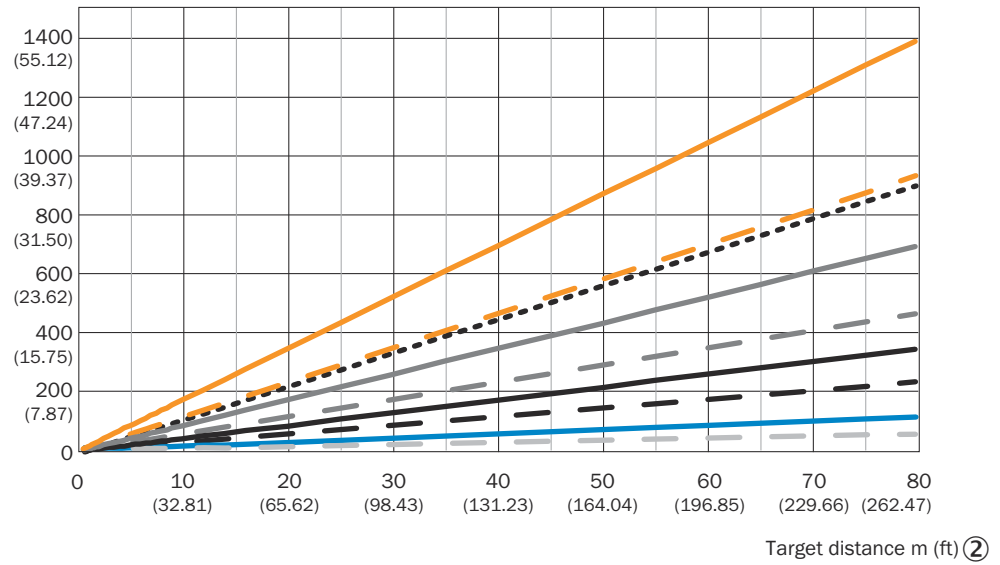
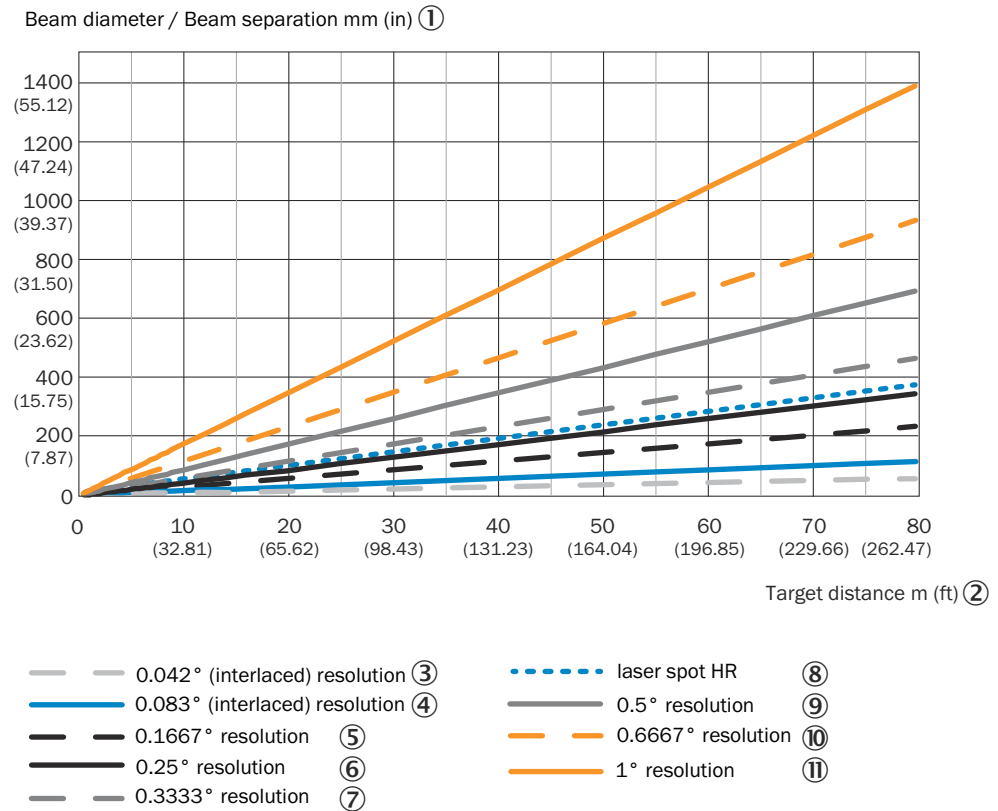

Figure 18: Beam diameter and measuring point distance at 0 to 80 m (SR)
Figure 20: Beam diameter and measuring point distance at 0 to 80 m (HR)
- ② Distance of the target [m] (in)
- ③ Resolution 0.042° (interlaced)
- ④ Resolution 0.083° (interlaced)
- ⑤ Resolution 0.1667°
- ⑥ Resolution 0.25°
- ⑦ Resolution 0.3333°
- ⑧ Beam diameter SR
- ⑨ Resolution 0.5°
- ⑩ Resolution 0.6667°
- ⑪ Resolution 1°
Reading example for an angular resolution of 0.1667° (SR) in figure 18
- Distance intersection point 30 m with the characteristic curve for beam diameter results in a beam expansion of approx. 370 mm (SR).
- ⑧ Beam diameter HR
Reading example with angular resolution 0.1667° (HR) in figure 20
- Distance intersection point 30 m with the characteristic curve for beam diameter results in a beam expansion of approx. 150 mm (HR).
- Beam diameter and measuring point distance as a function of the distance to the device can be seen in the diagram in see figure 18, page 28 or see figure 20, page 30